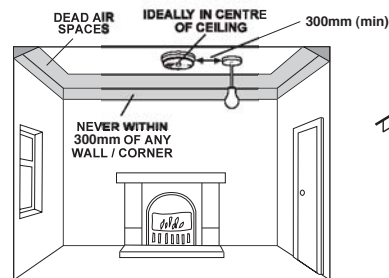

Figure 1
- At least 300mm away from walls. See **Figure 1**.